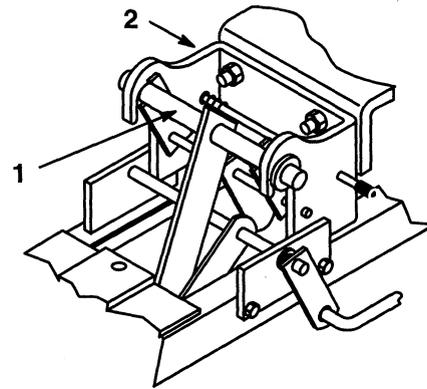

Figure 10
7. Slide front lift arm of blade into tractor front hitch. Close and lock front hitch (Fig. 10).